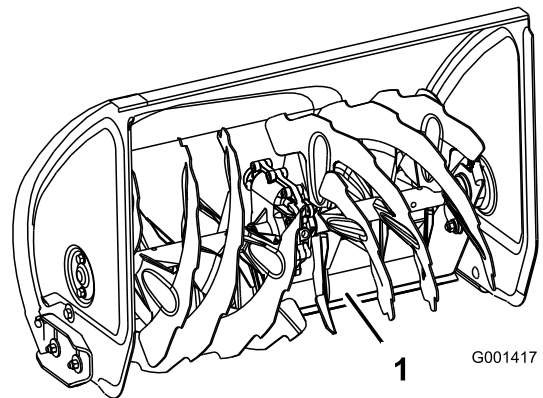

Figure 44
4. Push down on the handles to allow the pivoting scraper to move fully forward, then set the front of the snowthrower down so that the front edge of the pivoting scraper contacts the ground (Figure 44).